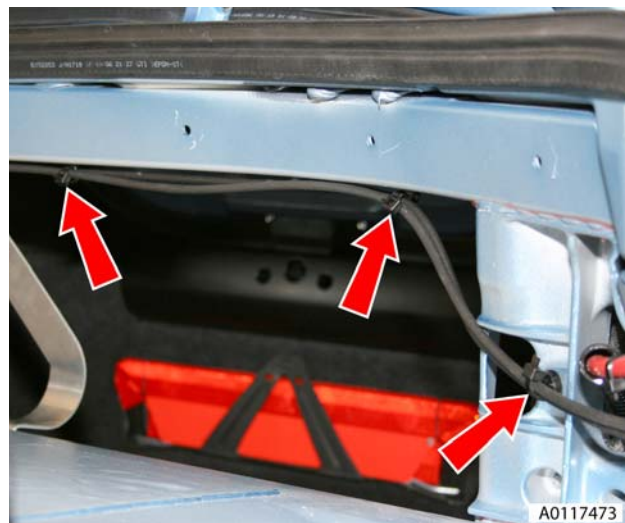

Figure 10
18. Release harness/pipe retaining clips (x3) LH (see Figure 10).